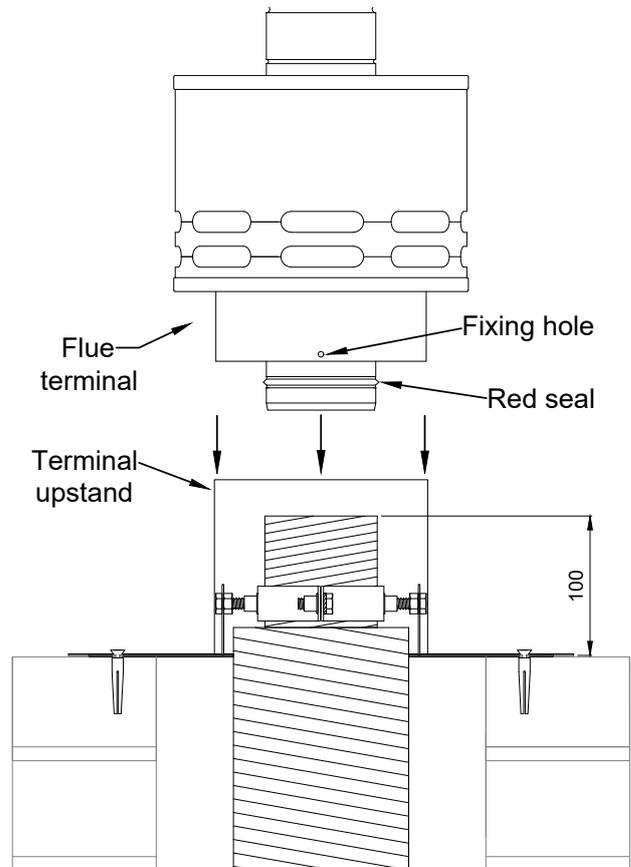

Figure 4-12: Fitting flue terminal
- Spot drill through the upstand by using the fixing holes in the lower section of the terminal as a guide, and secure the terminal to the upstand with the self tapping screws provided. Refer to Figure 4-12 for guidance.